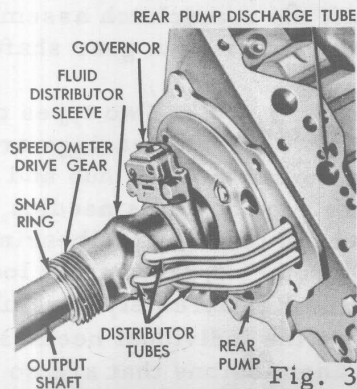

Fig. 3
- ☒ Using a snap ring pliers, remove the speedometer drive gear snap ring from the output shaft (Fig. 3). Place one hand under the output shaft below the drive gear. Remove the speedometer drive gear. If the drive gear drive ball does not drop out, remove the ball from the seat in the output shaft.